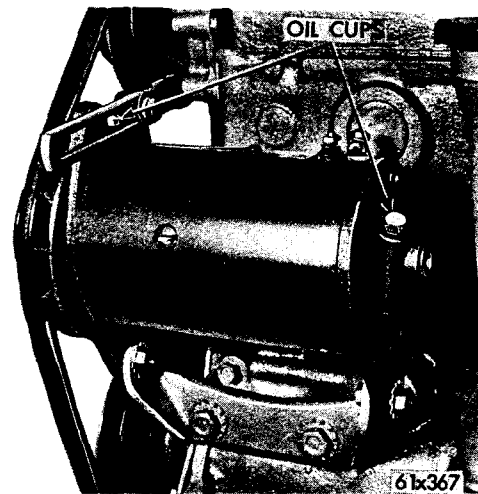

Figure 42 — Generator Lubrication
The generator (Figures 42 and 43) has two lubrication points: (1) Oil cup at the front bearing; and (2) one cup at the rear bearing. Lubricate each 5 to 10 drops of SAE 10-W Engine Oil After each 50 hours of operation.